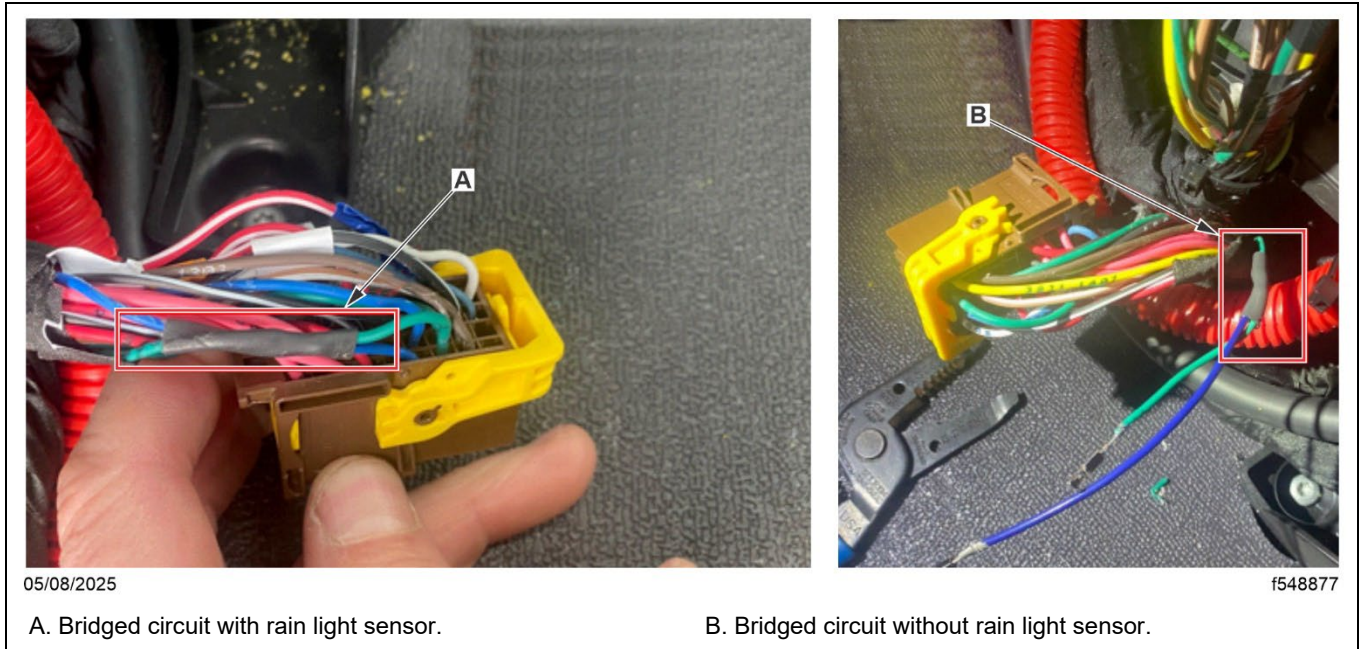
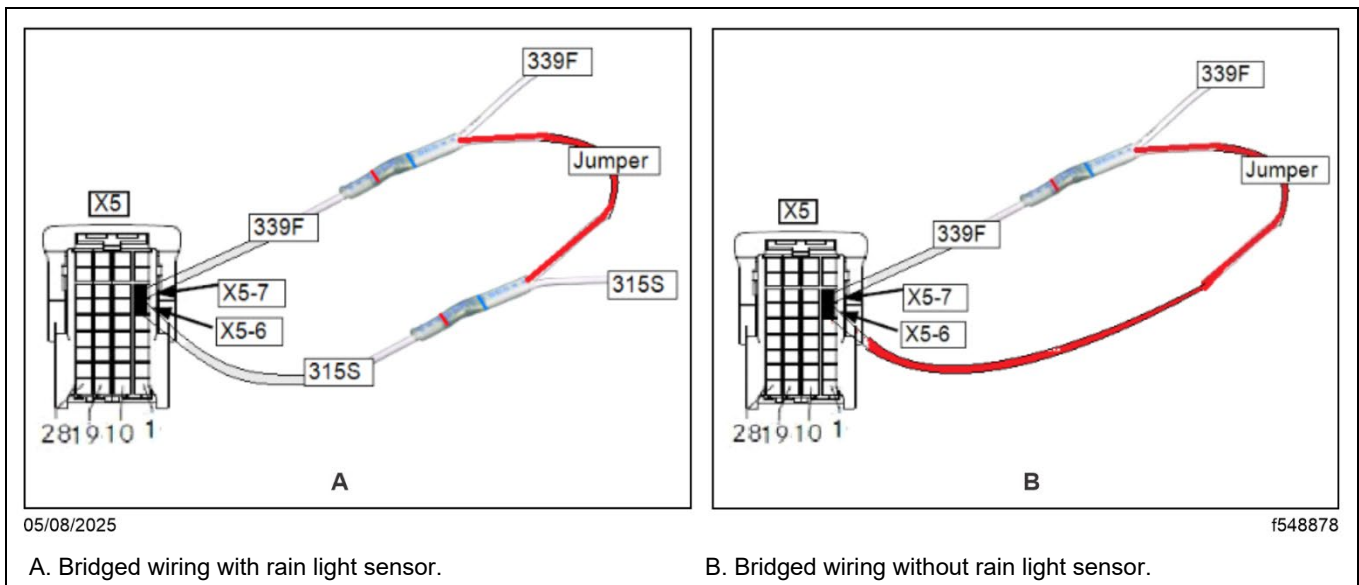

Fig. 2, Examples of Vehicle Modifications Done at Plant
Fig. 3, Modifications Suggested in Service Solutions
21. Inspect the wire harness and terminal cavities X5-6 and X5-7 for modifications that may have been done at the vehicle plant, as shown in **Fig. 2**, or based on the information in **Service Solution SS 3162-FTL** or **SS 775-WST**, as shown in **Fig. 3**. The modification is expected to be within 6 inches of the X5 harness connector.